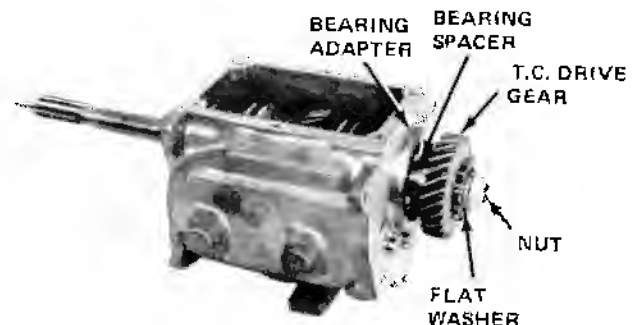
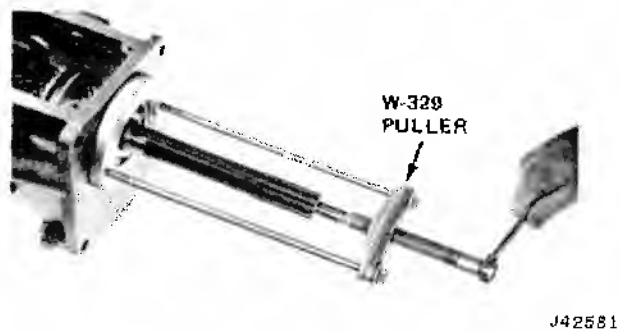

Fig. 6-3 Transfer Case Drive Gear
Fig. 6-4 Main Drive Gear Bearing Removal
- (1) Remove screws which attach transfer case to transmission.
- (2) Separate transfer case and transmission.
- (3) Remove nut and flat washer which attach transfer case drive gear to main shaft.
- (4) Remove gear, adapter, and spacer (fig. 6-3).
- (5) Remove main drive gear bearing cap and gasket, gasket.
- (6) Remove main drive gear bearing snap ring and main shaft bearing snap ring.
- (7) Remove main drive gear bearing and main shaft bearing. Use Bearing Puller Set W-329 (fig. 6-4 and 6-5).
- (8) Remove main drive gear from case.